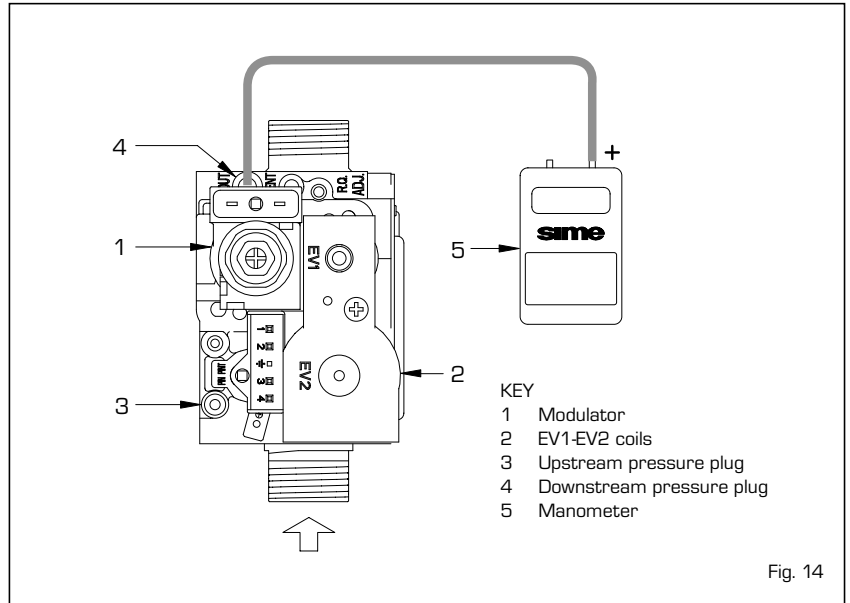

Fig. 14
The boiler model SIT 845 SIGMA (fig. 14) is produced with gas valve set at two pressure values: maximum and minimum, that correspond according to the type of gas to the values indicated in **Table 2**.
- Connect a differential manometer as shown in fig. 14.
- Remove the plastic cap of the modulator (1).
- Using a $\varnothing 10$ wrench turn the nut (3) to find the maximum pressure as shown in **Table 2**: to reduce the pressure turn the nut anti-clockwise, to increase the pressure turn the nut clockwise.